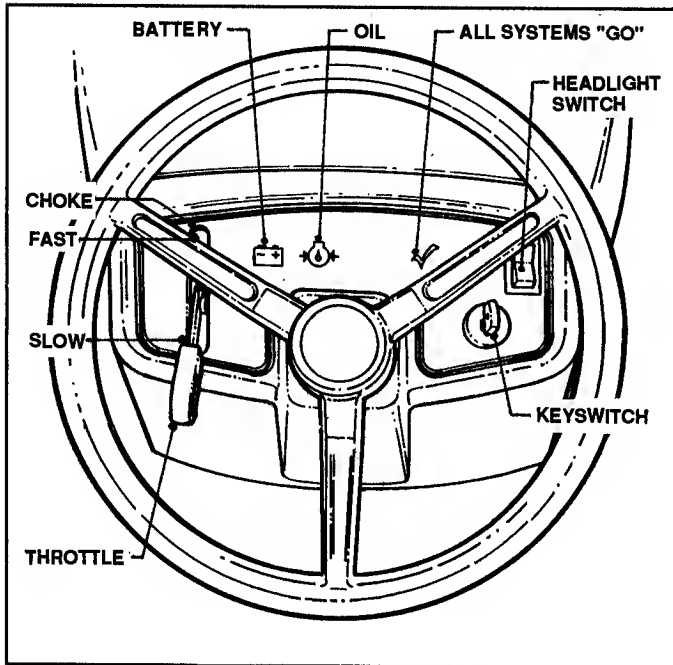

FIGURE 2
ENGINE: STOP ENGINE by turning the KEYSWITCH to "OFF". See Figure 2.
3. **CHOKE ENGINE** for cold starting by moving THROTTLE CONTROL to "CHOKE" position. (Little or no choking will be needed when re-starting a warm engine). Refer to Figure 2.